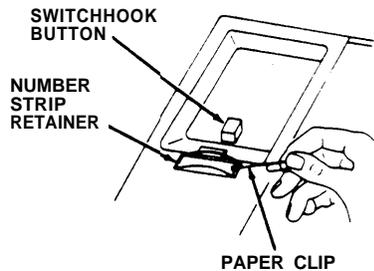

Figure 6
- Remove the number card retainer and the number card (see Figure 6).